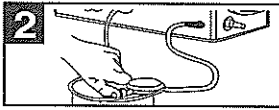

Figure 2
- 3、connect one end (with pressure adjusting valve) of the gas hose to gas cylinder, tighten the connector nut to make sure no gas leakage happens and open the gas tap (Figure 2 )